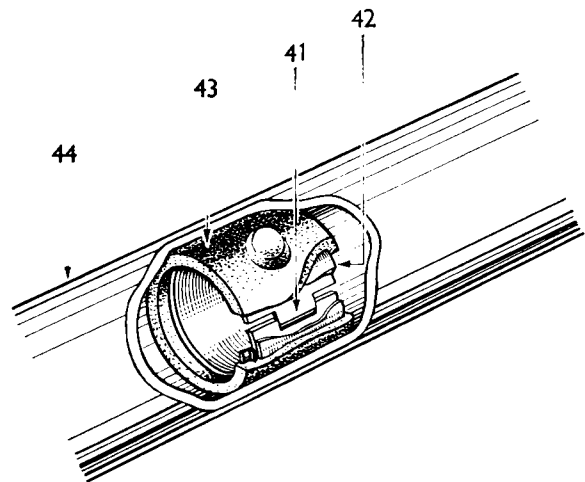

Fig. 27. Steering column bush assembly
- Assemble the nylon bush (41) and steel sleeve (42) to each rubber bush (43) and push the assembly into the bottom of the outer column (44) engaging the locating lugs with the holes as shown on Fig. 27. Ensure that the metal reinforcement ring at the end of the bush is positioned towards the lower end of the column. Repeat the procedure with the upper bush assembly.
- Fit the end cap (40) to the lower end of the column (44).